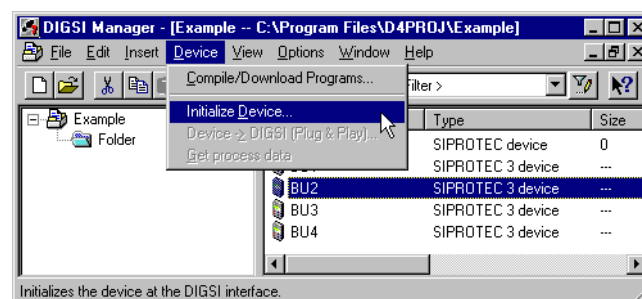

Figure 8-3 Initializing the device with DIGSI – Example
- Select in the menu bar under **Device** the option **Initialize Device** (Figure 8-3, page 299).